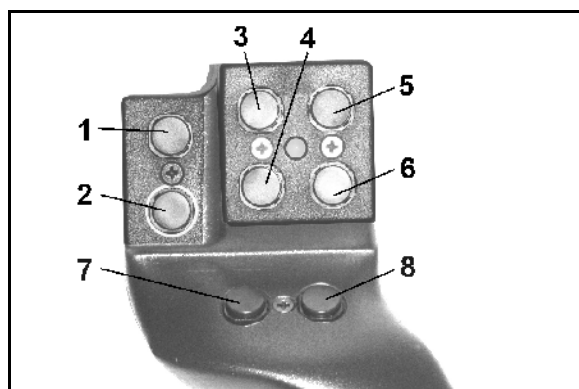
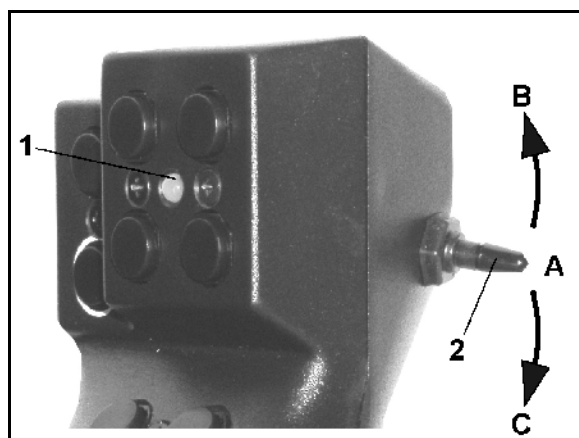

Fig. 59
Fig. 60
For operation of the **AMATRON⁺**, the multi-function stick (Fig. 59) has 8 keys (1 - 8) available. In addition, the assignment of the keys can be changed 3-fold by means of a switch (Fig. 60/2).
-  central position (Fig. 59/A) and can be pressed
-  up (Fig. 59/B) or
-  down (Fig. 59/C)
The position of the switch is indicated by an LED lamp (Fig. 59/1) angezeigt.